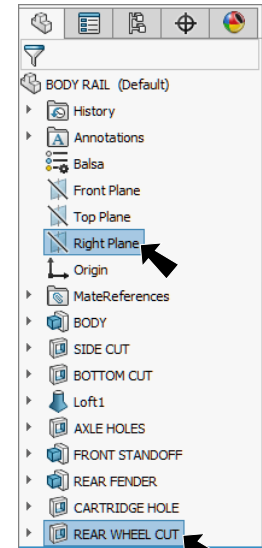

Fig. 109
Step 1. Ctrl click Right Plane and REAR WHEEL CUT feature to select both, Fig. 109.